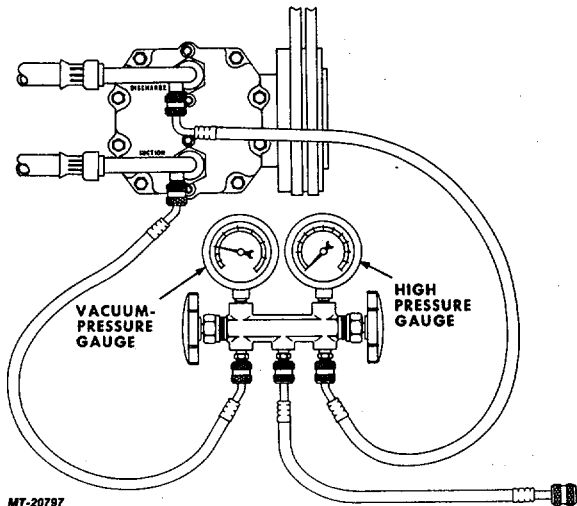

Fig. 35 Manifold and Gauge Set Connected to Compressor Service Port
3. Connect SE-2443 Service Station to air conditioning system service ports as follows: (See Fig. 35)